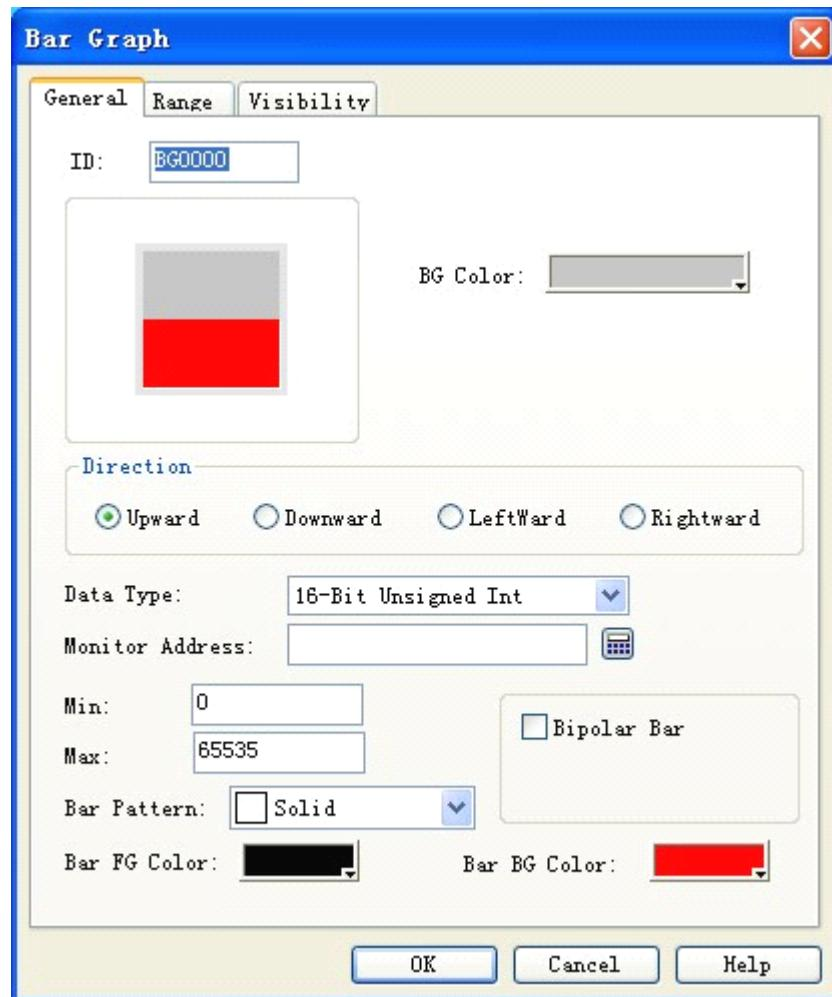

Figure 4-80: Bar Graph dialog
1. Click Bar Graph icon in the tool bar or the Bar Graph command in Tool menu, and then a dialog as shown in Figure 4-80 will appear.